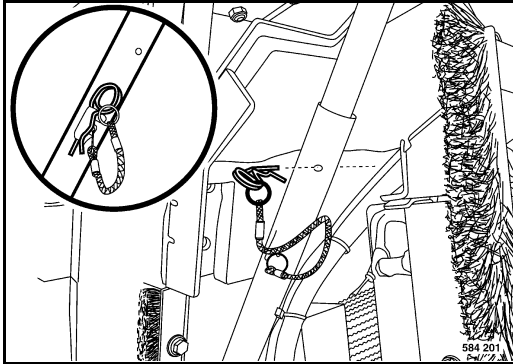

Fig. 77
- Pull the spring pin (Fig. 77) out of the bracket.